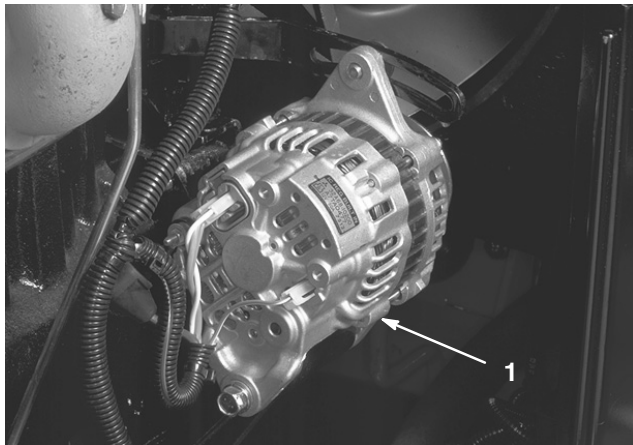

Figure 45
4. Every 100 hours operation, inspect alternator belt for condition and proper tension (Fig. 45). Replace belt if condition warrants. Check and adjust tension as follows:
- D. Loosen the 3 bolts securing alternator to plate and mounting bracket (Fig. 45). Rotate alternator away from engine to increase tension and tighten bolts. Check belt tension after adjustment and re-adjust, if necessary.